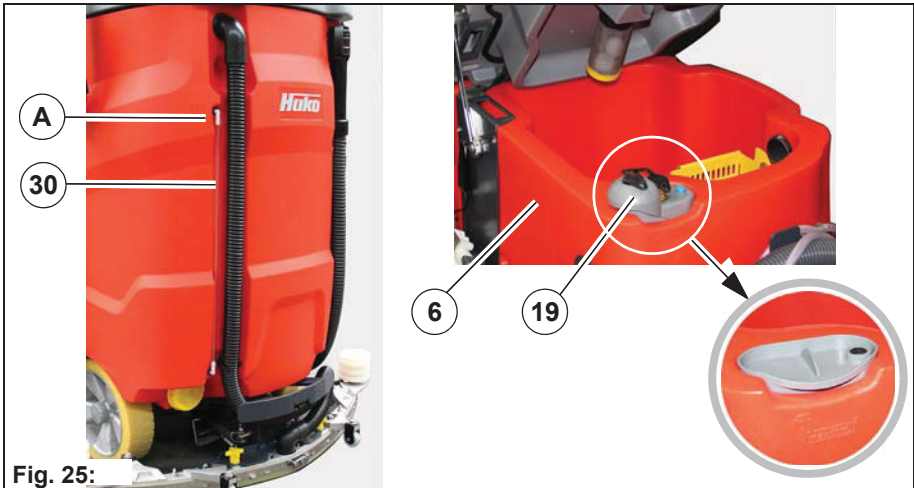

Fig. 25:
4. Fill the solution tank up to the maximum (1/1) mark **Fig. 25-A** (maximum water temperature 50 °C).